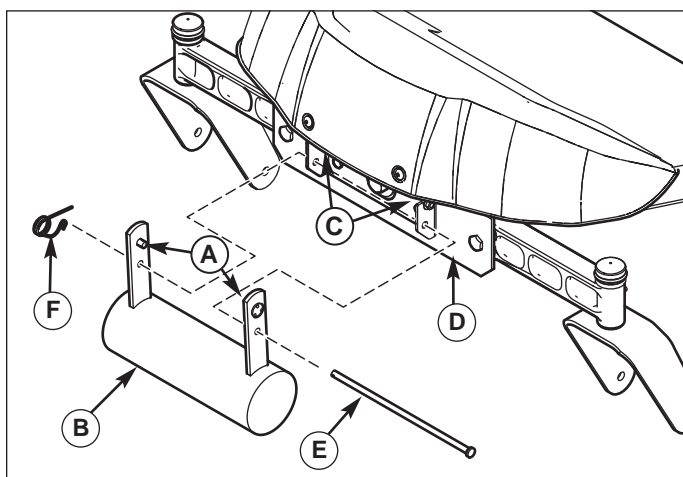

Figure 1. Install Counter Weight
1. Slide pins (A, Figure 1) on counterweight (B) into slots (C) on front footrest support bracket (D).
2. Secure counterweight (B) with pin (E) to front footrest support (D).
3. Secure pin (E) with safety clip (F).